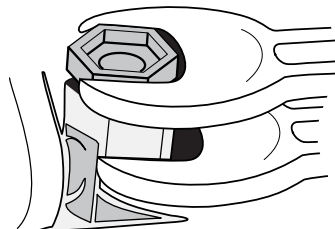

Figure 6
6.1.2. Hold a wrench across the flats of the inlet connector assembly to prevent damage to the connector, and unscrew the inlet filter (Refer to Figure 6).